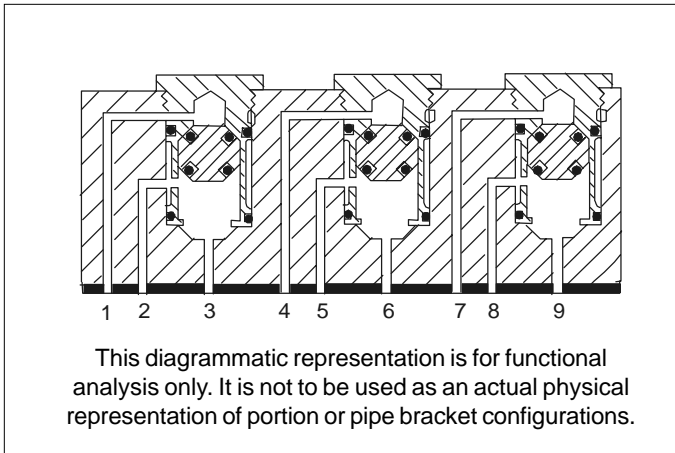

Figure 2 - Diagrammatic View
2.0 OPERATION (Figure 2)
The check valve assemblies of the "24-E" Double Check Valve Portion are designed to select the higher air pressure inlet and to direct this air to the outlet port. The higher inlet air pressure forces the integral floating check valve to seal against its seat on the low pressure side. This action closes the passage between the low pressure inlet port and the outlet port of the body. Air then flows from the high pressure inlet port to the outlet port and to the controlled device. In Figure 2, the high pressure inlet ports are 3, 6, and 9; the outlet parts are 2, 5, and 8; and the low pressure inlet ports are 1, 4, and 7.